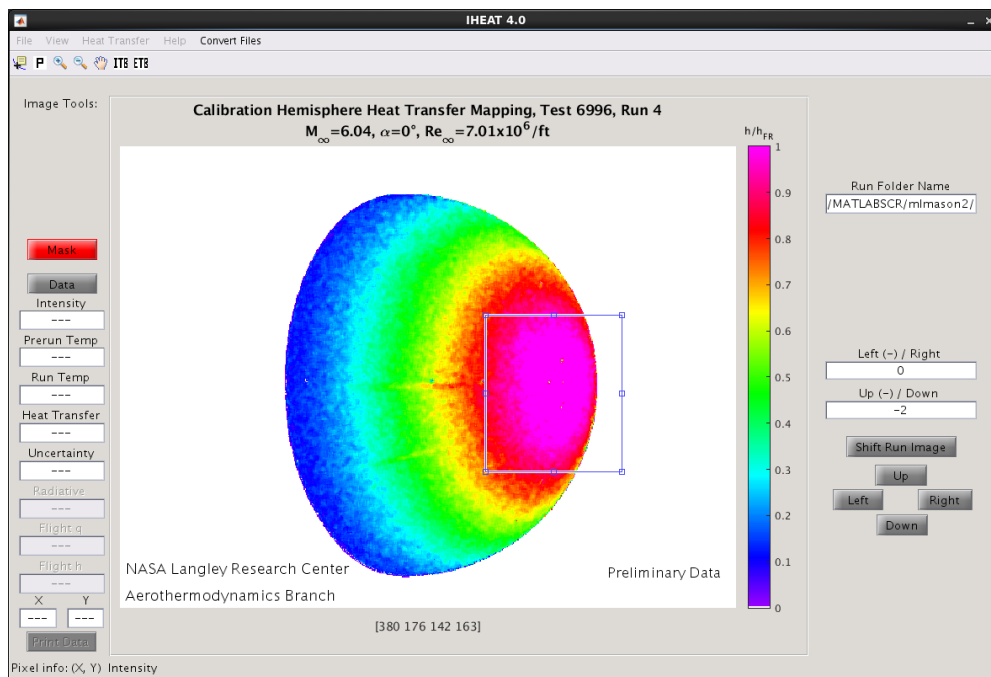
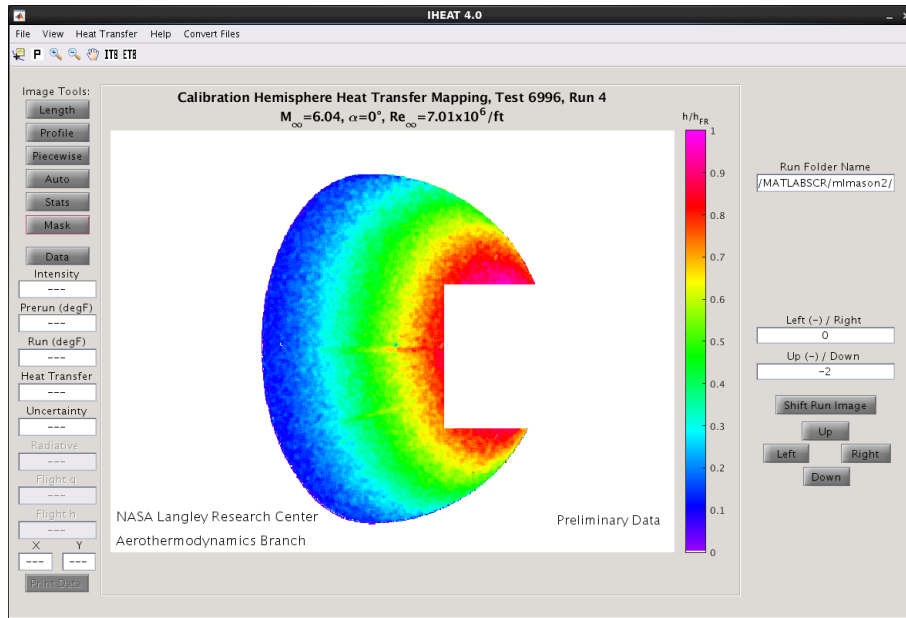

Figure 24: Image Tools, Mask.
Figure 25: Image Tools, *Mask: Refresh* Applied.
6. *Mask*: Figure 24 shows the *Mask* tool used to hide an ROI on the image, and figure 25 shows the same image after the masked ROI is hidden (by exiting the *Mask* tool, which calls the *Refresh* function). The user can mask multiple regions of the image at a time by dragging the corners of the *Mask* rectangle to different locations on the image. All of the pixels within the rectangle are masked, so the user should not position the rectangle over any useful data in this process. All of the masked regions are hidden from view by setting the data for those pixels equal to zero. *View > Undo All Mask Edits* restores the original images and data (refer to the description of *Undo All Mask Edits* in the *View* menu section). When the *Batch* tool is used, any regions that have been hidden in the example run image using the *Mask* tool also will be masked in the *Batch* data files.